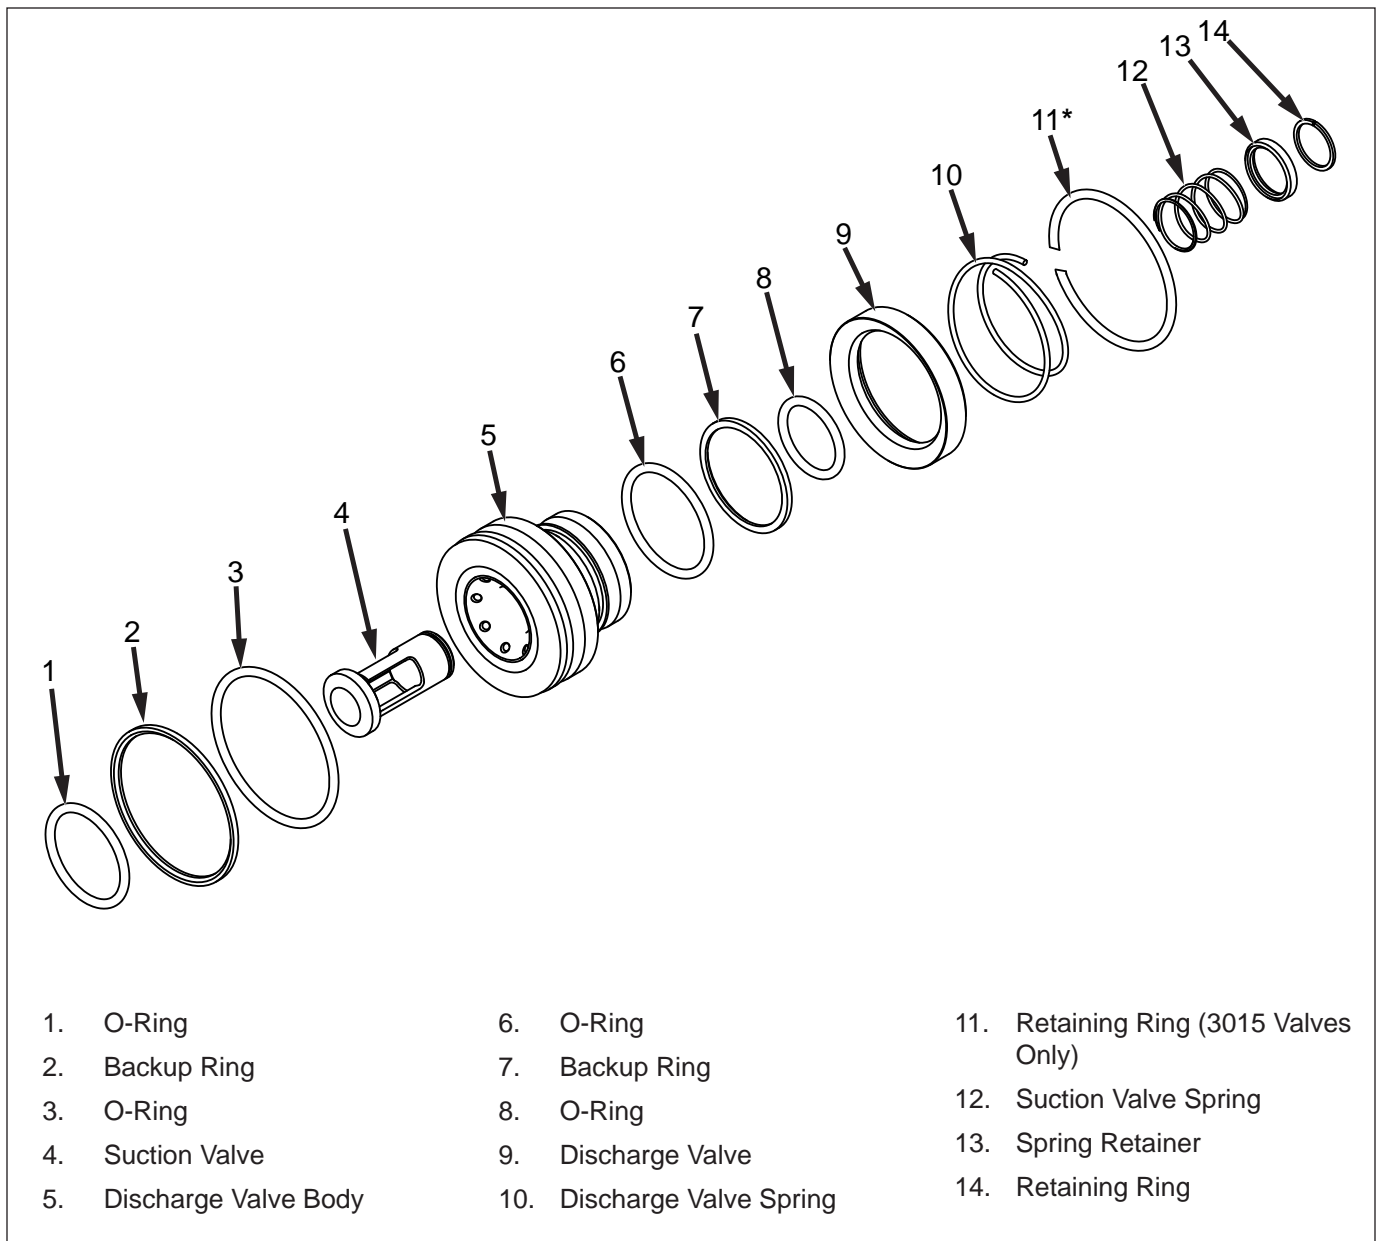

Figure 77: 15/20K Uni-Valve Exploded View.
Note: 3015 valves are equipped with a retaining ring to secure the discharge spring (Figure 77).
6. Install the new O-rings and backup rings into their respective positions on the assembly (Figure 77).